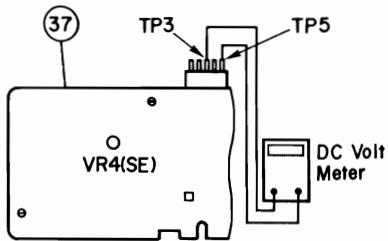

Figure 22
1. Remove the bottom cover according to disassembly instruction (B).
2. Insert the test connector to the 5-pin plug (CN4) of the Control P. C. Board and connect a DC voltmeter between TP3 and TP5 of the test connector as shown in Figure 22.